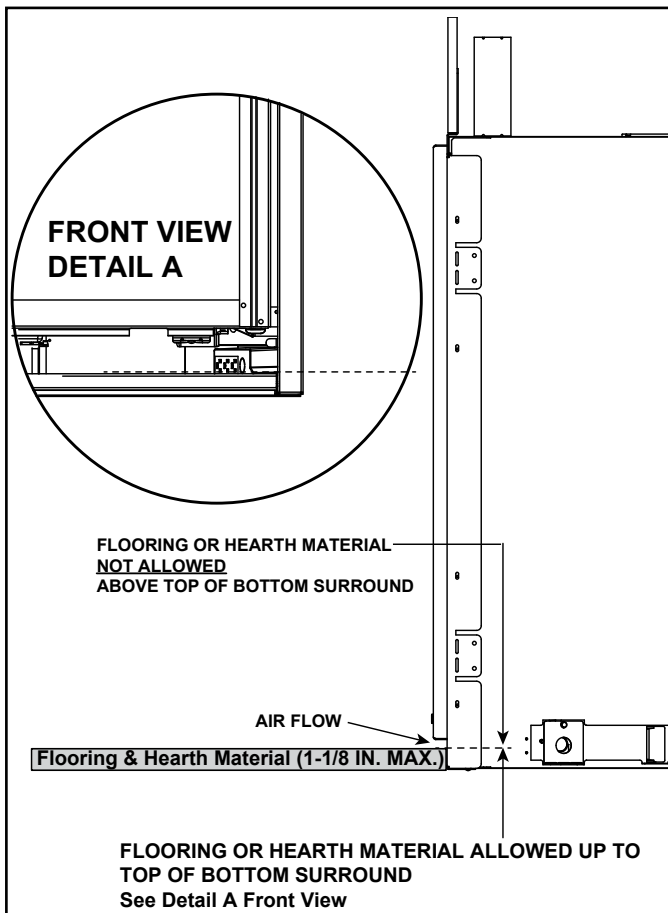

Figure 3.17 Flooring & Hearth Material Allowed
- Flooring and hearth material is allowed up to, but not above, the top of the bottom surround in order to allow for proper air flow from appliance. See Figure 3.17.